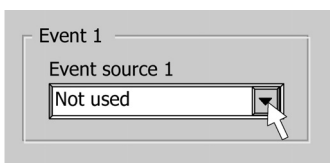

Figure 13
- After selecting the command source, click on the "Configuration" tab. One of the displayed drop boxes is named "Event source 1" (figure 13).